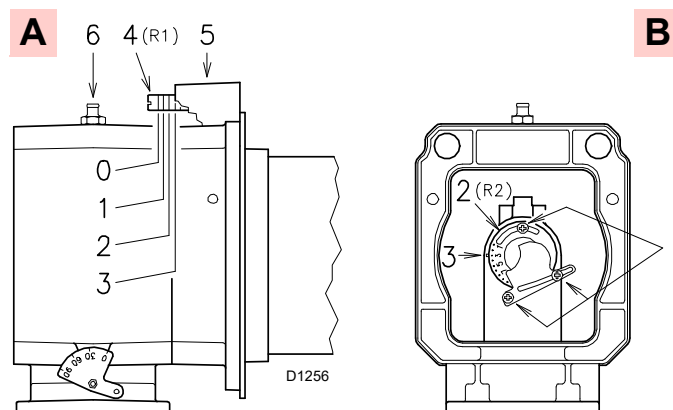
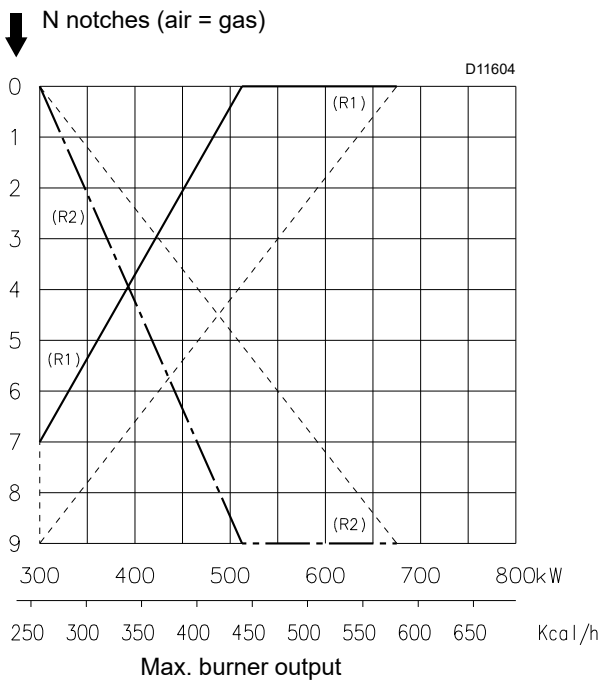

Fig. 13
Fig. 14
At this stage of installation the blast tube and the pipe coupling are secured to the boiler as shown in A)(Fig. 13).
- air R1 (A, Fig. 13)
- gas/air R2 (B, Fig. 13)
In the diagram (Fig. 14) find the notch at which to adjust both air and gas.
Rotate the screw 4)(Fig. 13) until the notch you have found corresponds with the front surface 5)(Fig. 13) of the flange.
To facilitate the adjustment, loosen the screw 6) (Fig. 13), adjust, then block.
Loosen all 3 screws 1)(Fig. 13) and rotate the ring nut 2) until the notch you have found corresponds with the index 3). Block the 3 screws 1).
In the diagram (Fig. 14) this burner output has the following adjustments:
The diagram (Fig. 14) indicates the optimum adjustment for a type of boiler according to Fig. 3 on page 10. If the gas pressure allows it, by closing the ring nut 2) (Fig. 13) you obtain reductions in the formation of NOx.